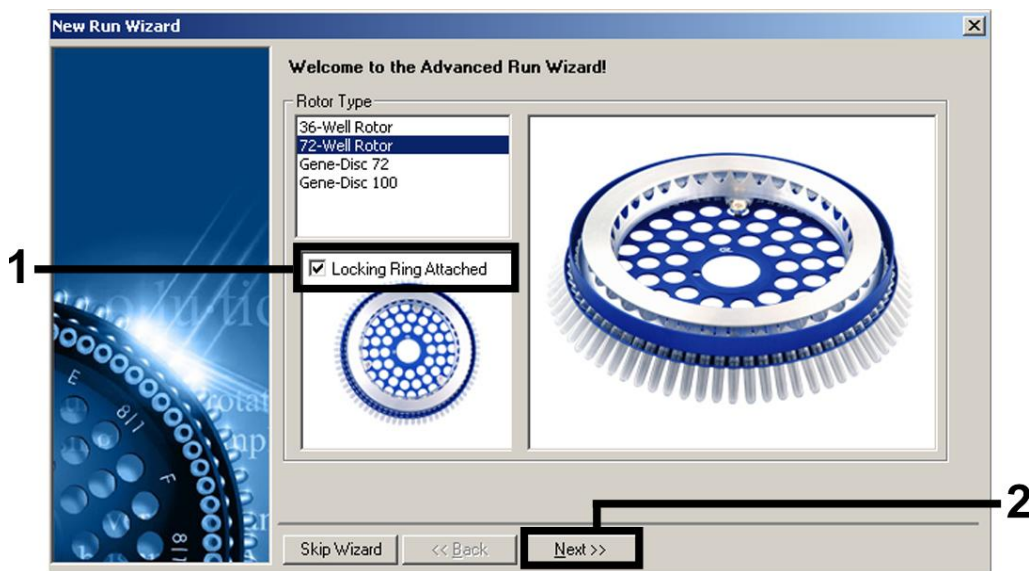

Figure 1. The “New Run Wizard” dialog box.
3. Open the “New Run Wizard” dialog box (Figure 1). Check the **Locking Ring Attached** box and click **Next**.